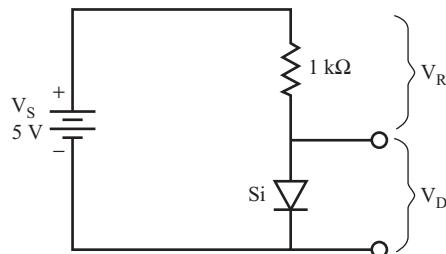

FIGURE 2.17
- 12** Calculate the current through the diode in the circuit shown in Figure 2.17 using the steps in the following questions.